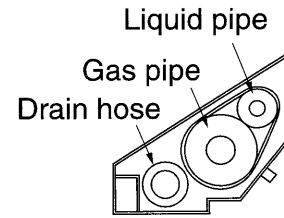

Fig. 13
4. When running pipes from the left side, keep pipes and the drain hose as shown on Fig. 13.